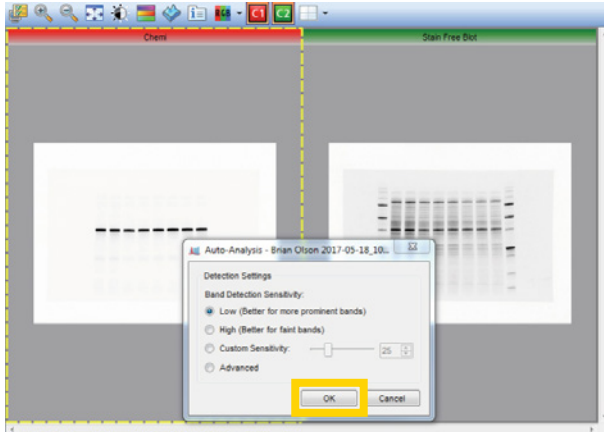

Fig. 4. Automatic lane and band detection.
- Select the appropriate band detection settings based on blot band intensity (Figure 4). Image Lab Software will automatically detect lanes and bands